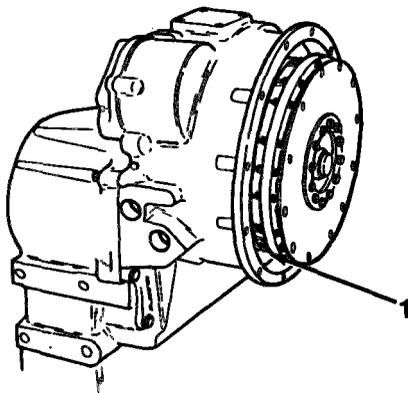

Figure 11-1
4. Position drain pan under converter assembly (1, Figure 11-1).